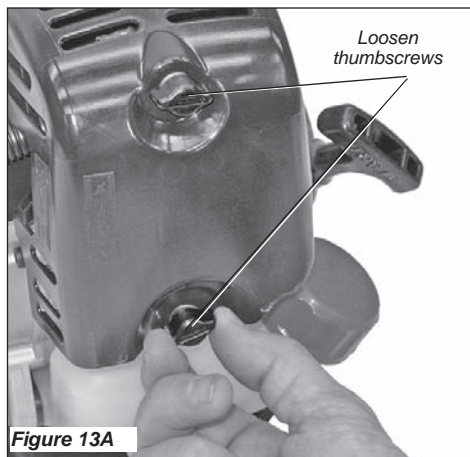

Figure 13A
1. Remove the air filter cover by loosening the two thumbscrews. See Figure 13A.